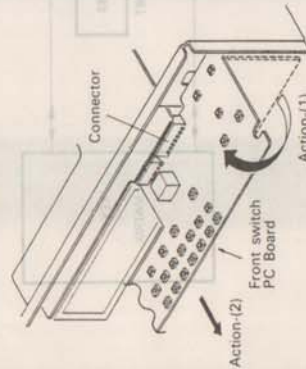

Fig. 2
3. Lift up the bottom-end of the front switch PCBs and pull it out toward you from the connector. (Fig.2)